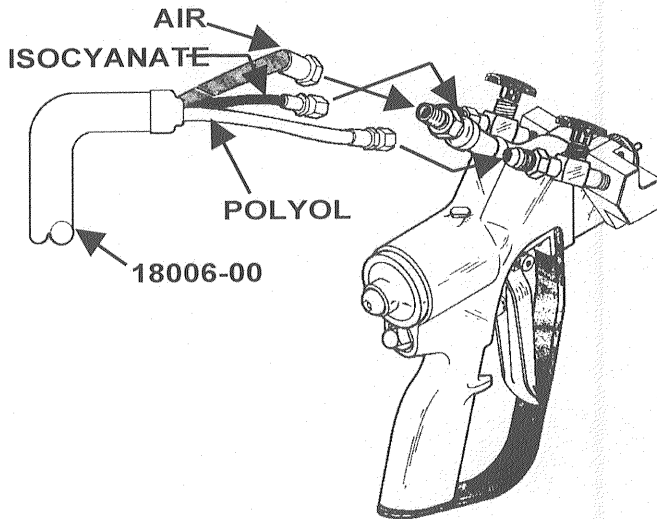

Fig. 4
8. The Whip Hose assembly should now be attached to the Gun. The swivel fittings on the Whip Hose assembly are sized differently and will attach only one way. (Match like sized fittings.) Also connect the Air Hose assembly to the Gun at this time. (see Fig. 4)